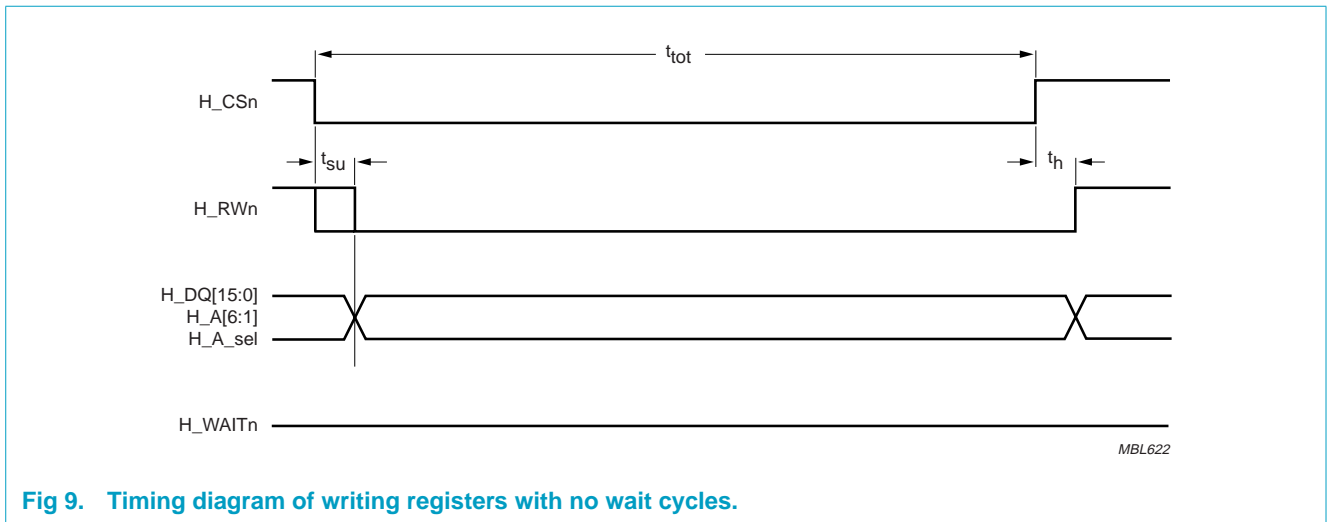
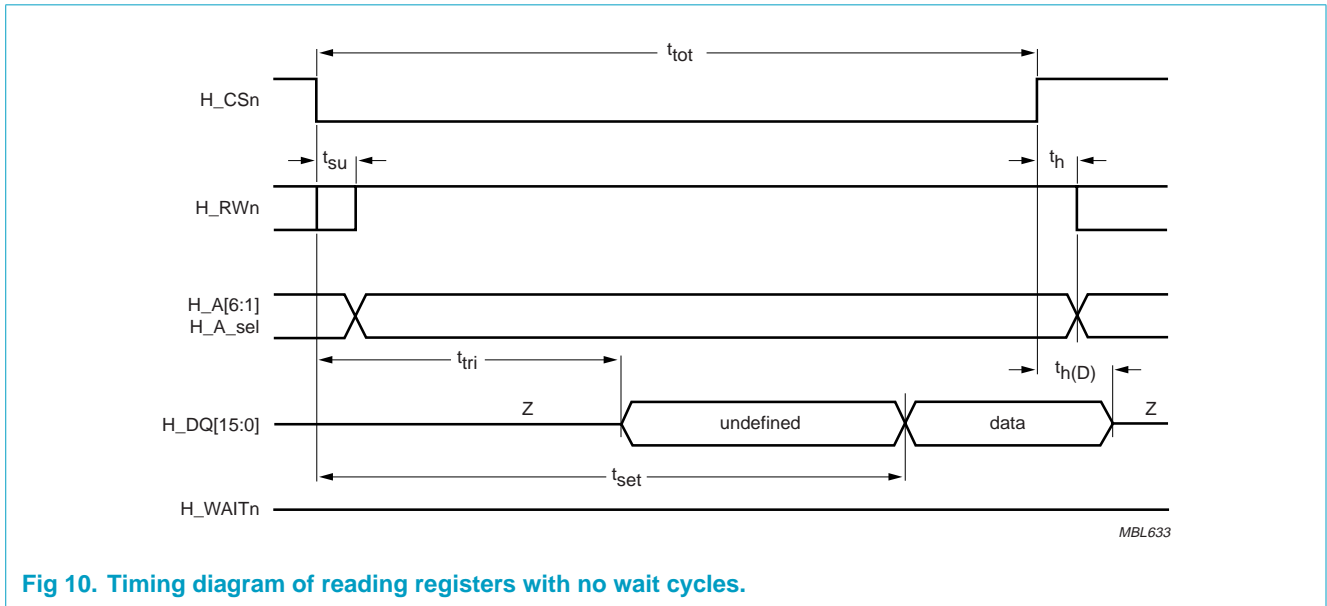

Fig 9. Timing diagram of writing registers with no wait cycles.
Fig 10. Timing diagram of reading registers with no wait cycles.
- [1] When the SAA7893HL SAD16 interface is programmed to generate always a H_WAIT signal of at least 7 sys_clk cycles, then it is no longer required that the minimum time of t_{tot} is 14 sys_clk cycles. The data at the H_DQ output is always available at the negative edge of the H_WAIT signal. The host can deactivate the H_CS signal after the negative edge of the H_WAIT signal and when it has read the data at the H_DQ lines. When a H_WAIT signal is always generated then the timing diagrams in Figure 9 and Figure 10 are no longer applicable.